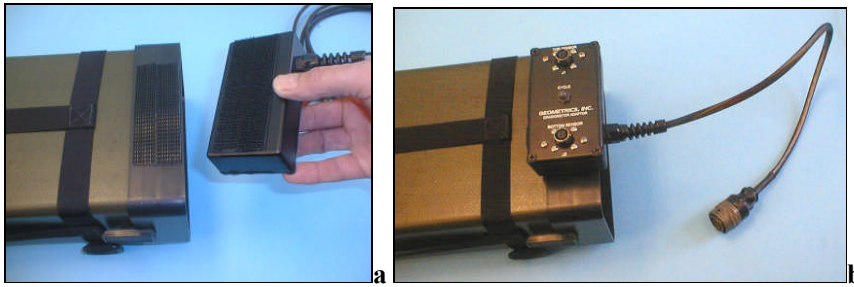

Figure 15. Attach the gradiometer switch box.
- 6) The sensor cables may now be connected to the Remote Start Switch box, and the Remote Start Switch may be connected to the G-856AX front panel connector. As shown in Figure 15, attach the Velcro strip to the top of the G-856AX black front panel bezel. Mount the Remote Start box to this mating Velcro strip.